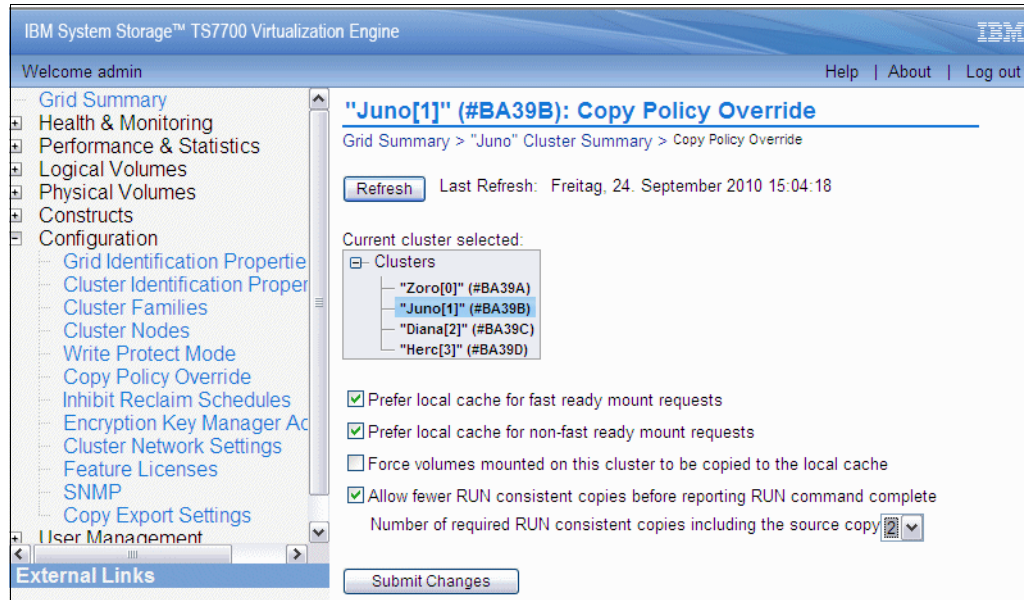

Figure 10-1 Logical Volume Copy Consistency Override
- With the introduction of the three-cluster grid, Logical Volume Copy Consistency Override has been enabled. Using settings on each library, you can override existing RUN consistency points. Figure 10-1 shows an example of the setting from the management interface (MI), where a third copy is forced to Deferred Copy, but only if three copies are requested from the MC definitions on all three clusters.